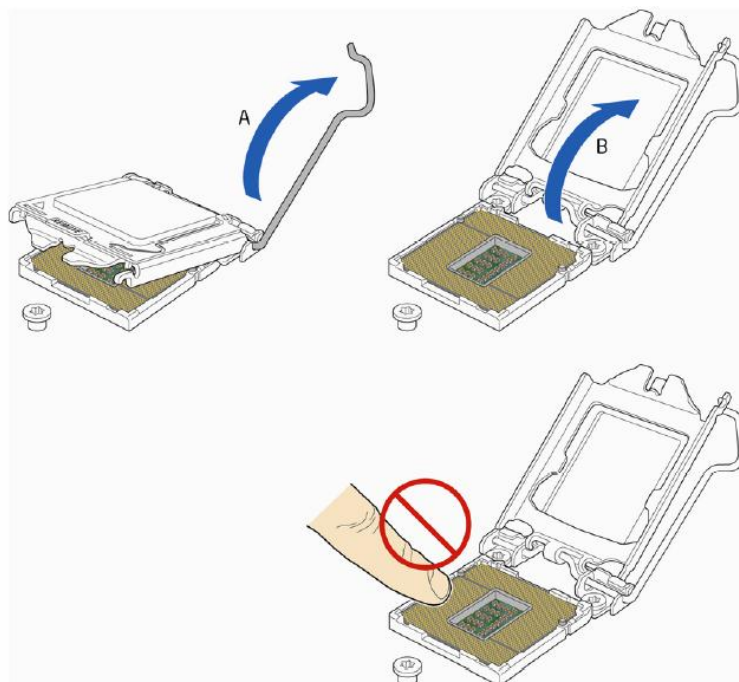

Figure 21: Lift the load plate
2. Rotate the socket lever to lift the load plate away from the socket (Figure 21, A). Make sure that the load plate is in the fully open position (Figure 21, B) while being careful not to damage adjacent components. Do not touch the socket contacts.